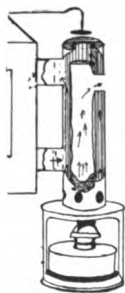

FIG. 141. Incubator lamp.
**250. Incubators Heated by a Lamp.** Choose a lamp which holds enough oil to last for twenty-four hours. Good lamps are usually made of metal and as plain as possible (Fig. 141).